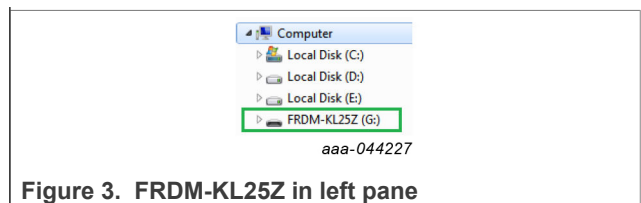

Figure 3. FRDM-KL25Z in left pane
- This time WITHOUT pressing the RST button, the FRDM\_KL25Z device appears on the left pane of the File Explorer as pictured in Figure 3.